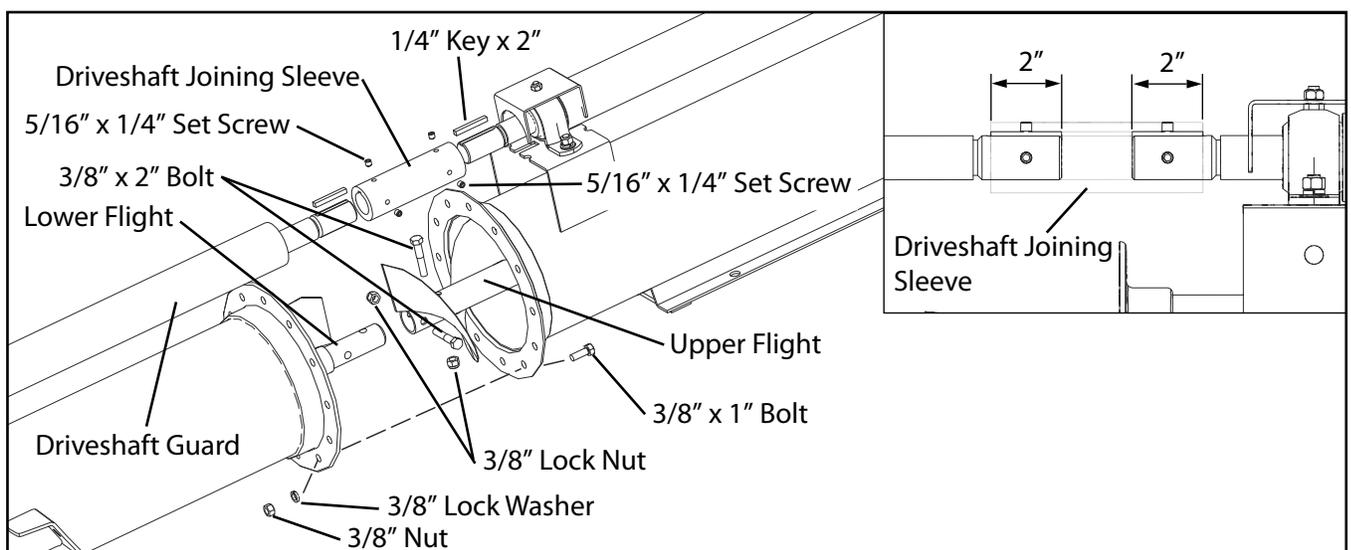

FIG. 3-1. 847, 852 & 862 Tube Joint
1. 847, 852 & 862 Augers (see Fig. 3-1)
Note: Join the drive shafts together first. Install the Drive Shaft Joining Sleeve onto the upper tube drive shaft as shown in Fig. 3-1. Slide the lower drive shaft into the other end of the sleeve. Next join the upper and lower flights, making sure the lower flight laps over the upper flight. Lastly, join the tubes together.